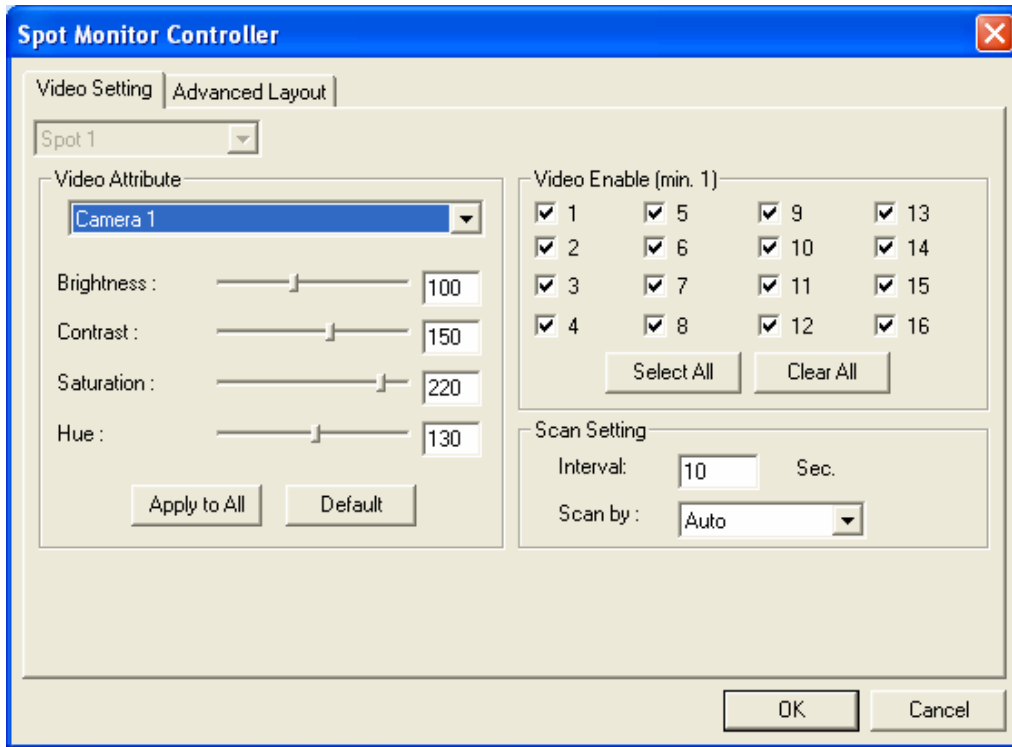

Figure 11-80
- **Interval:** Enter the interval between the scanned pages (see Figure 11-80 for the scanned page). Set the time between 1 and 999 seconds.